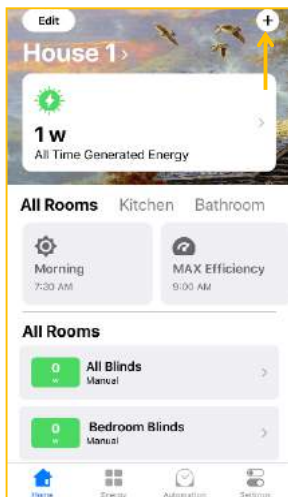

Figure 16
10.5.1. Click **+** in the top right corner to start (Fig. 16).